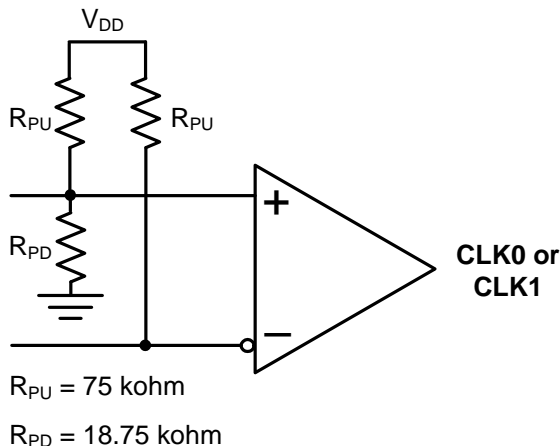

Figure 4. Input Bias Resistors
- See Figure 4.
2. See Figure 4.